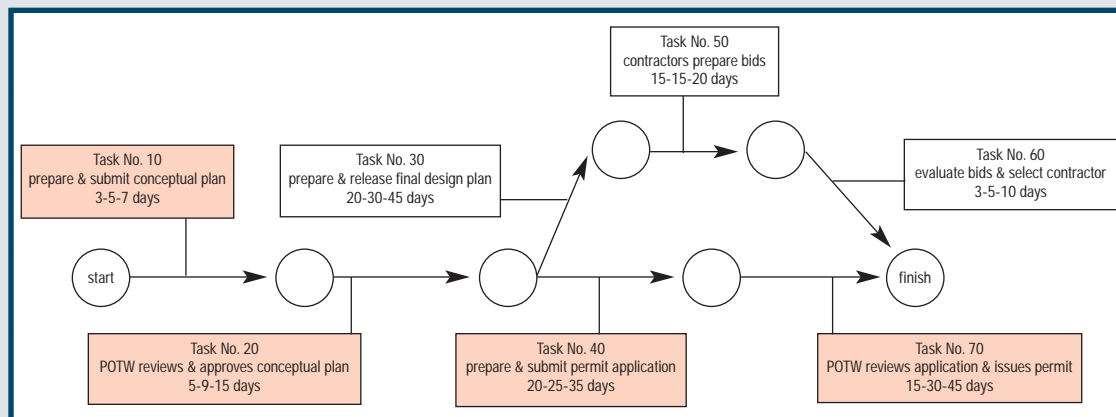

Figure 1. Example CPM chart for water reclamation system project.
Using this simple example, the CPM chart presented in Figure 1 can be prepared in five steps:
4. Plot the tasks using a network diagram. The circles in Figure 1 represent the beginnings and ends of project tasks. The arrows represent project tasks and are labeled with the task number, name, and duration. If a circle has multiple arrows branching from it, it means that the tasks can be performed concurrently. When a circle has incoming arrows,
CPM and PERT tools are built into project management applications and are also available through standalone scheduling applications. Microsoft Visio also includes PERT chart templates; however, the calculation of key charting parameters is not accomplished within Visio and must be performed separately. The CPM chart in Figure 1 was constructed using Visio's basic flowcharting features.